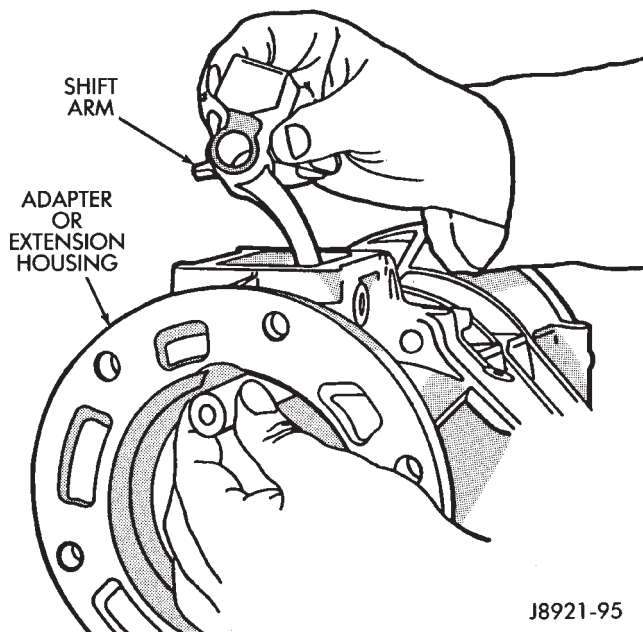

Fig. 95 Installing Adapter Housing And Shift Arm
(6) Install adapter or extension housing on intermediate plate (Fig. 95). Tighten housing bolts to 37 N·m (27 ft. lbs.) torque.
(7) Install shift arm (Fig. 95).